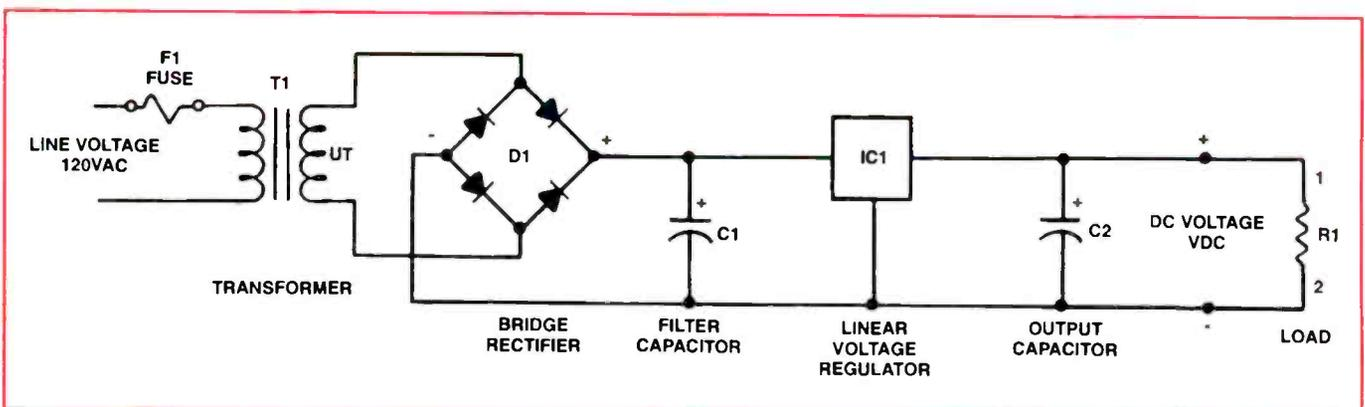
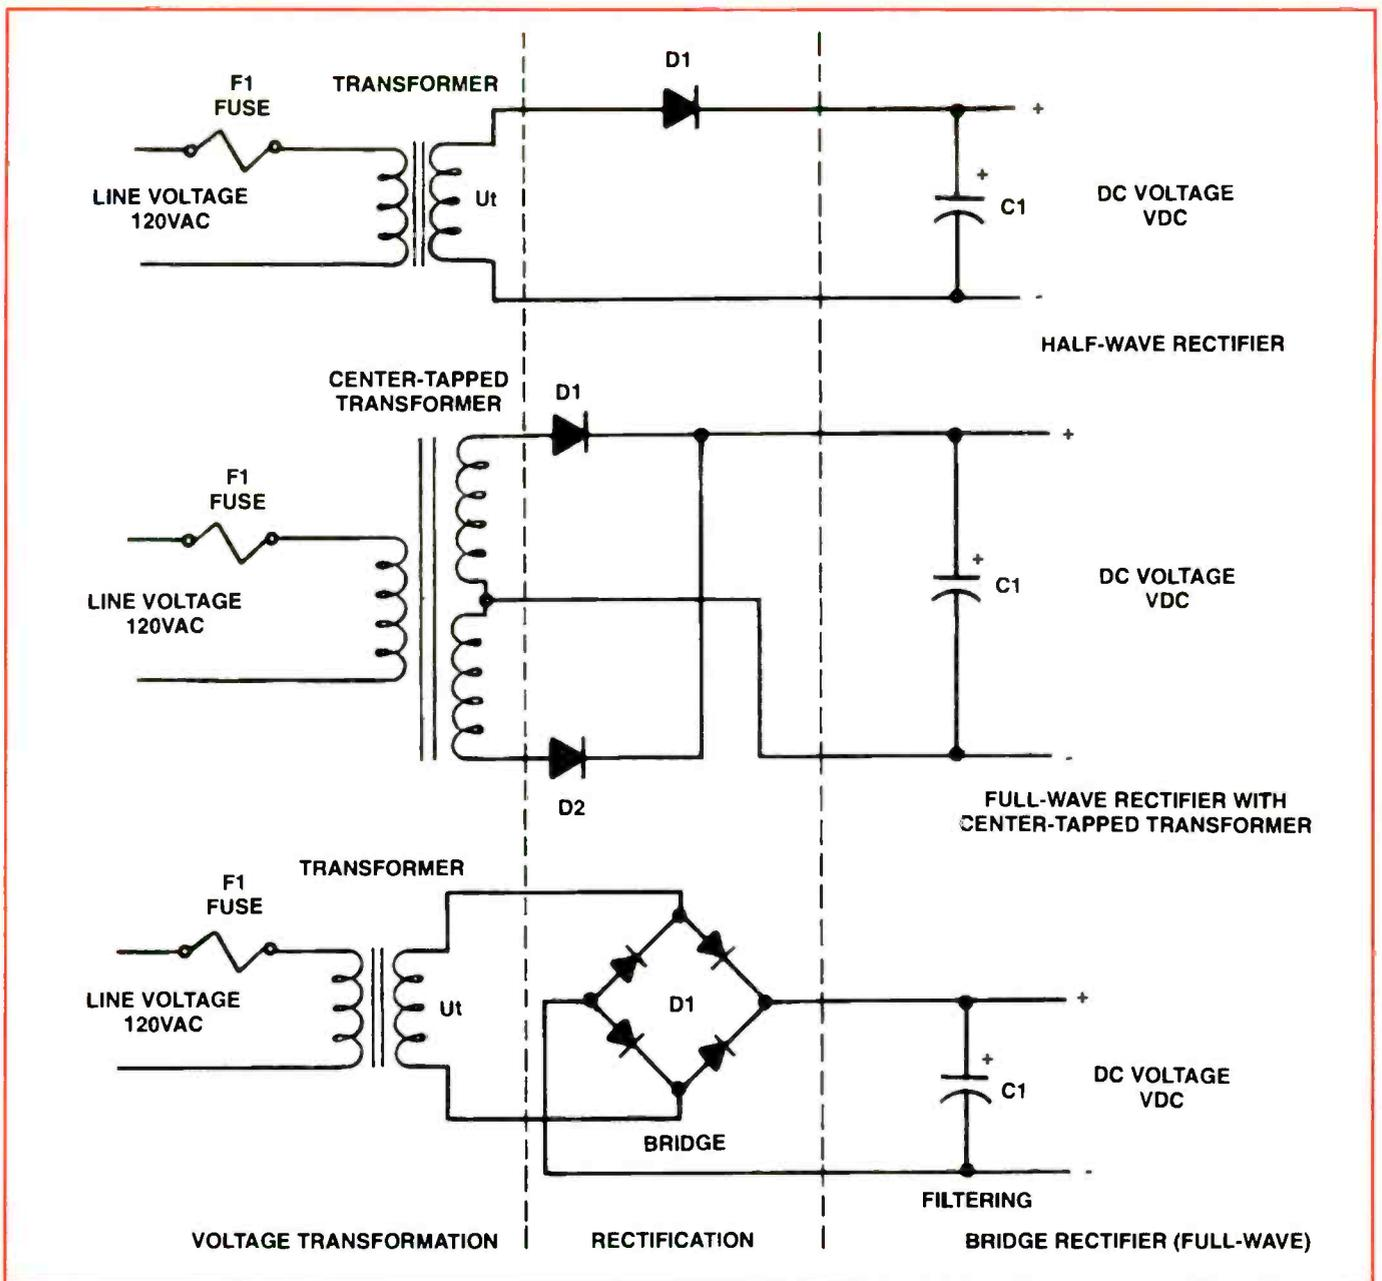

Figure 1. A typical linear power supply.
Figure 2. Several variations of the linear power supply have been commonly used in consumer electronics products.
Figure 1 is a linear power supply that incorporates the functions described.
- *Rectifier D1*: In the circuit of Figure 1 the rectification is performed by a bridge rectifier. The output voltage of the bridge rectifier is shown in Figure 2. The configuration of the rectifier in a given product may be different from the one shown here. For some applications it is appropriate to use a half-wave rectifier that consists of only one diode. However in most power supplies full-wave rectifiers are used because the full-wave rectifier is more energy efficient, and filtering of the rectified voltage is easier. The common circuits of rectifiers
- *Filter capacitor C1*: The filter capacitor C1, usually a large value electrolytic capacitor, must hold its charge between the half cycles of the rectified voltage and is charged out by short current pulses near the peak voltage (V_{PEAK}) depending on the load ($R1$). The resulting voltage at the output of the smoothing capacitor C1 is shown in Figure 2.